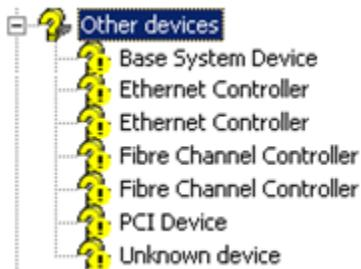

Figure 3-7. QLogic 8100 Series Adapter Device Entries
Figure 3-7 shows typical entries for a dual-port QLogic 8100 Series Adapter. For information about identifying QLogic devices in the Other Devices section, refer to “Identifying Unnamed Devices” on page 3-8.
- a. Click **Other Devices** to see a list of devices for which a driver is not installed on the server. Find each port of the QLogic adapter FCoE function that is listed as **Fibre Channel Controller** under this section. Figure 3-7 shows typical entries for a dual-port QLogic 8100 Series